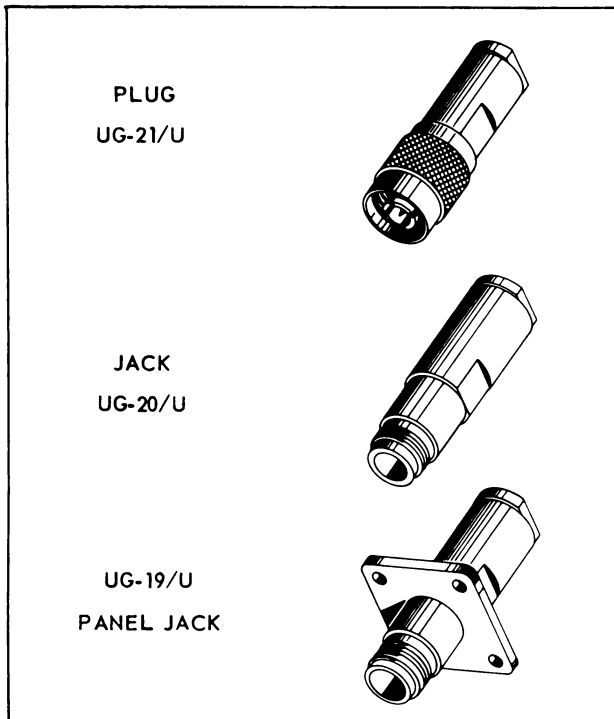

Figure 4-3. Typical N Connectors
c. N Series. See Figure 4-3. A general purpose, threaded coupling connector used with medium size rf cables.